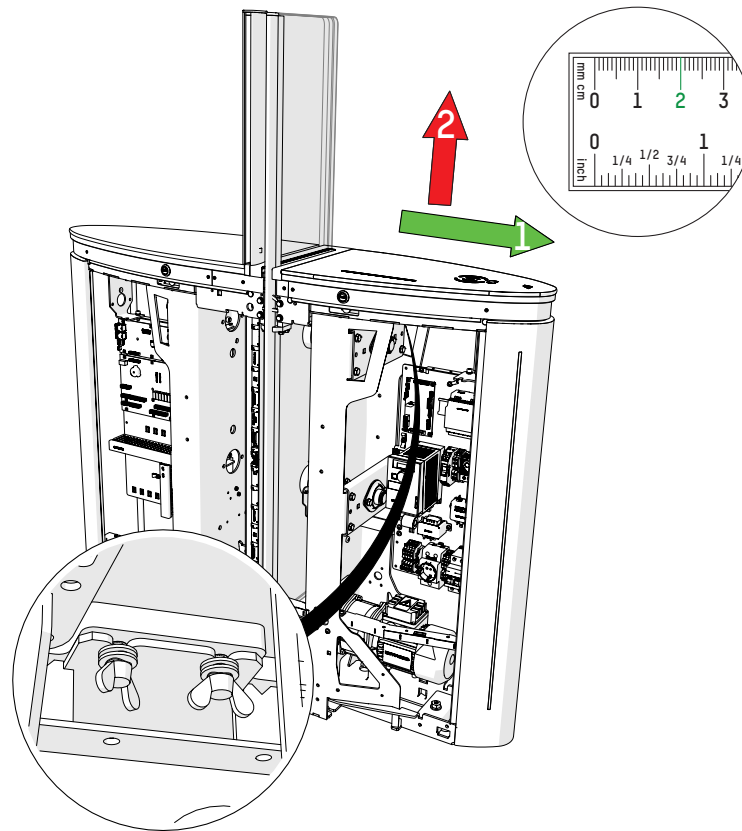

Fig. 76 - Removing a short plate
**THE NUT A ( $\Rightarrow$  FIG. 76) IS SET AT THE FACTORY TO ENSURE THAT THE COVER PLATE IS MOUNTED WITHOUT GAP. PLEASE **DO NOT TIGHTEN THIS NUT** AFTER THE COVER PLATE HAS BEEN INSTALLED, AS THIS MAY DEFORM THE COVER PLATE AND/OR CAUSE IT TO COME OFF.**